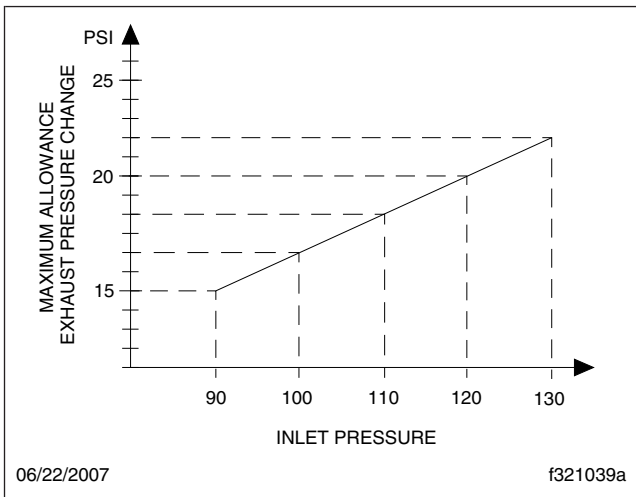

Fig. 4, Inlet Pressure vs. Exhaust Pressure Change in 30 Seconds
- 11.3 Observe the test gauge for 30 seconds. Refer to **Fig. 4** for the maximum allowable
- 12.3 Observe the test gauge for 30 seconds. Refer to **Fig. 4** for the maximum allowable